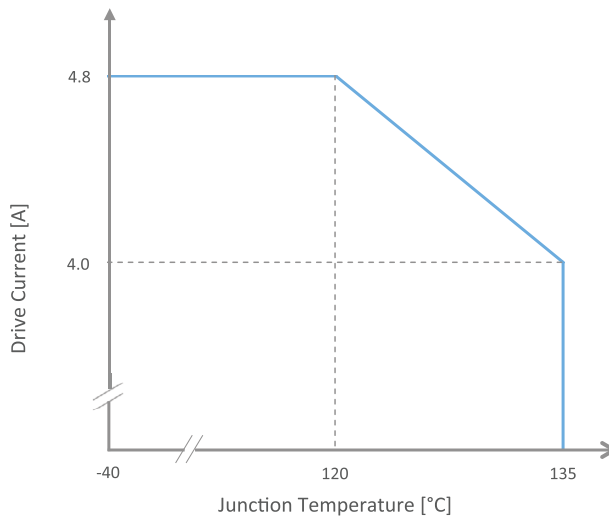

Figure 1. Maximum permissible operating conditions for LUXEON V.
- 1. Proper current derating must be observed to maintain the junction temperature below the maximum allowable junction temperature, as shown in Figure 1.